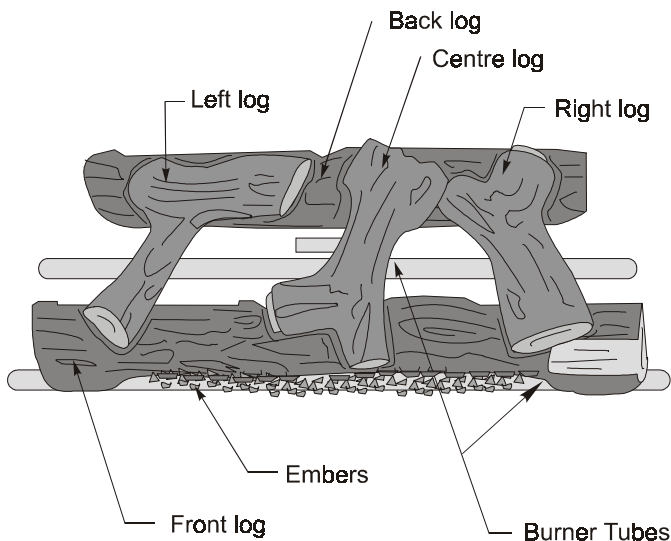

Figure 24b. Proper log placement.
4. Place the top logs in position as shown in figure 24b.